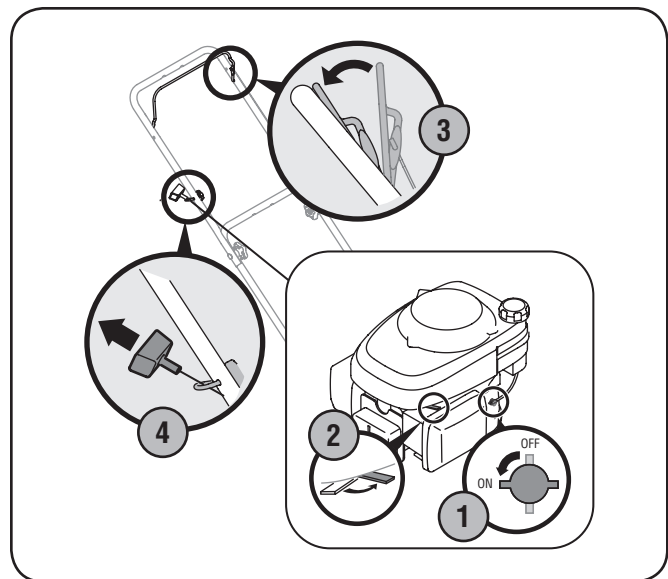

Figure 5-2
1. If equipped, place the fuel valve lever found on the left side of the engine into the ON (OPEN) position. See Fig. 5-2.
4. Holding these two handles together firmly, grasp recoil starter handle and pull rope out with a rapid, continuous, full arm stroke. See Fig. 5-2. Keeping a firm grip on the starter handle let the rope rewind slowly. Repeat until engine cranks. Let the rope rewind each time slowly.